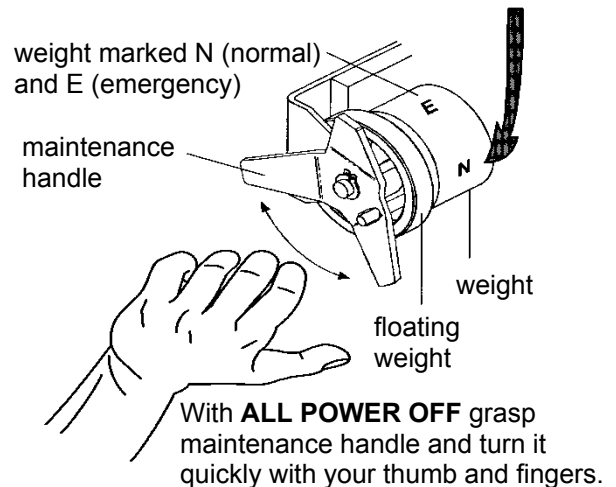

Figure 3. Maintenance handle and positions.
1. All power sources and the load must be deenergized before performing a manual operation. **All power must be off!** Open the enclosure door. Locate the maintenance handle on the left side of the transfer switch. See Figure 3